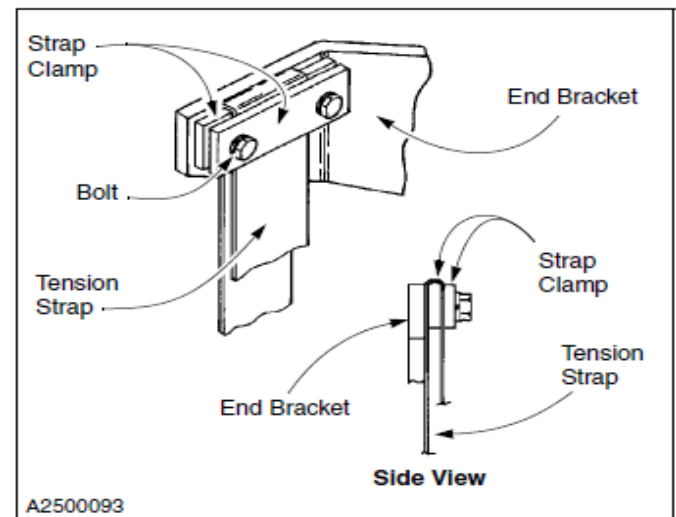

Figure 59
7. Loosen the tension strap clamp bolts. (See Figure 59)